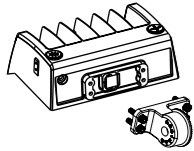

Figure 3.1
3.1 INSTALLED WITH SLIP FITTER MOUNT (SUITABLE FOR 80W, 100W) (AM)
STEP 2: Pass the rubber wire through the mounting head of the bracket and secure it with an inner hexagon screw.(Watch out not to scratch the wire); (Figure 3.1)